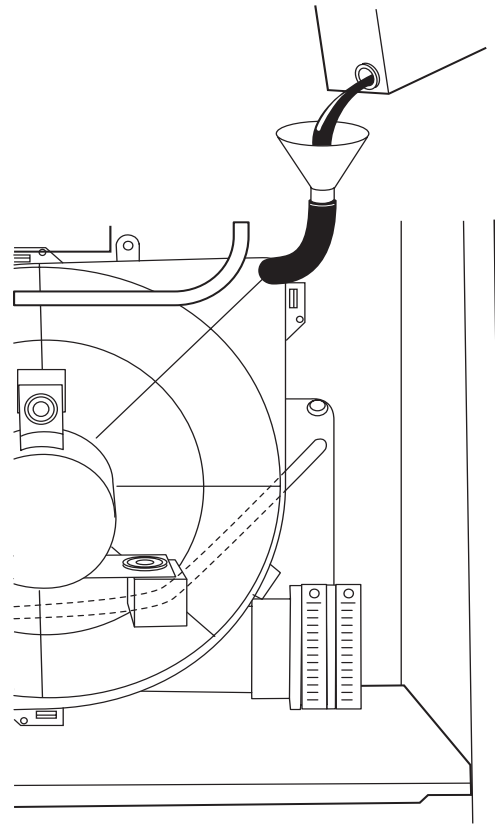

Fig. 19 – Funnel in Drain Tube and Antifreeze Running Through Trap
5. Insert funnel in tube and pour one quart of antifreeze, propylene glycol (RV, swimming pool antifreeze, or equivalent) into funnel/tube until it is visible at point where condensate enters open drain. (See Fig. 19.)